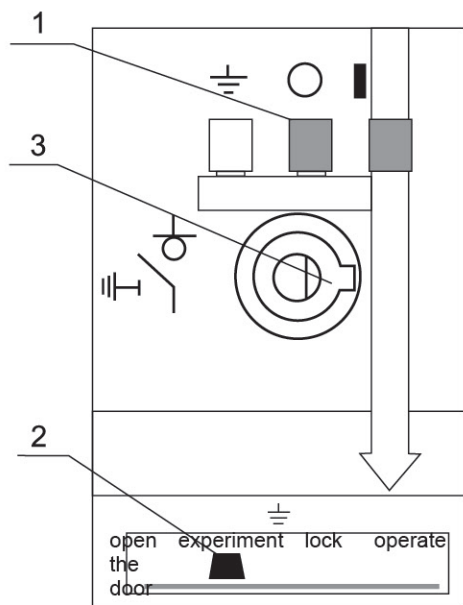

Figure 8
Place the load switch location indicator to the earthing site, shown in Figure8 (1). The selector is placed on the test site, shown in Figure8 (2). Check the shaft rabbit which should be vertical as indicated in Figure8 (3). Insert the operation handle to the slot, then make the guidance key match the slot shafting, turn it with approximately 80 degrees clockwise until it is breaking.